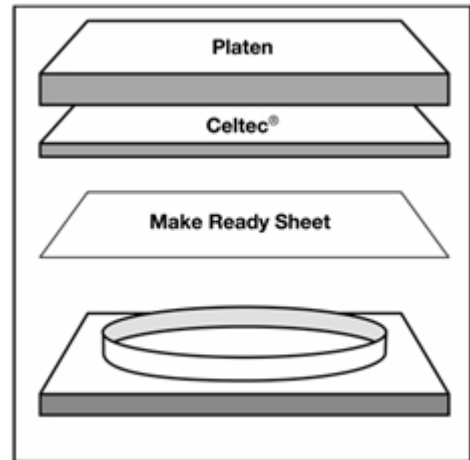

Figure 1h
5. After the kiss cut, transfer the make ready sheet from the top of the cutting late to beneath the cutting plate, taking care that it is placed in the identical position in the press. Keeping the paper in the press will ensure that the exact knife depth required to cut the Celtec cleanly, as established in Step 4 with the paper in place, is maintained (Figure 1h).